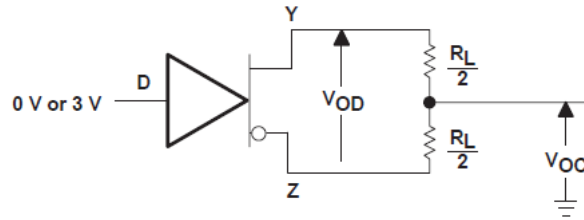

Figure 6-1. Differential and Common-Mode Output Voltage Test Circuit
| $ V_{OD} $       | Differential output voltage (2)                        | $R_L = 54\ \Omega$See <a href="#">Figure 6-1</a>          | SN65LBC179,SN65LBC179Q         | 1.1 | 2.2                | 5         | V             |
| $\Delta V_{OD} $ | Change in magnitude of differential output voltage (3) | See <a href="#">Figure 6-1</a> and <a href="#">Figure 6-2</a> |                                    |     |                    | $\pm 0.2$ | V             |
| $V_{OC}$         | Common-mode output voltage                                        | $R_L = 54\ \Omega$                                            | See <a href="#">Figure 6-1</a>     | 1   | 2.5                | 3         | V             |